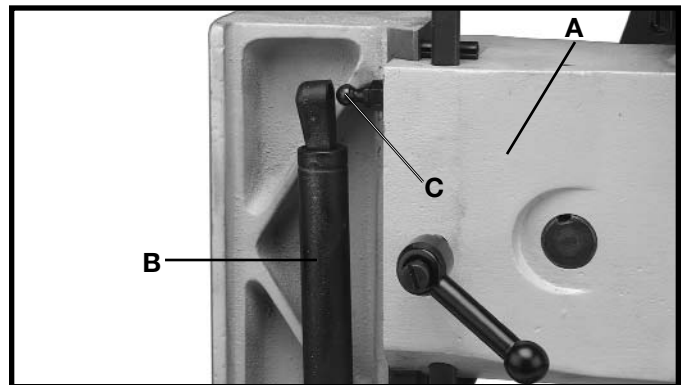
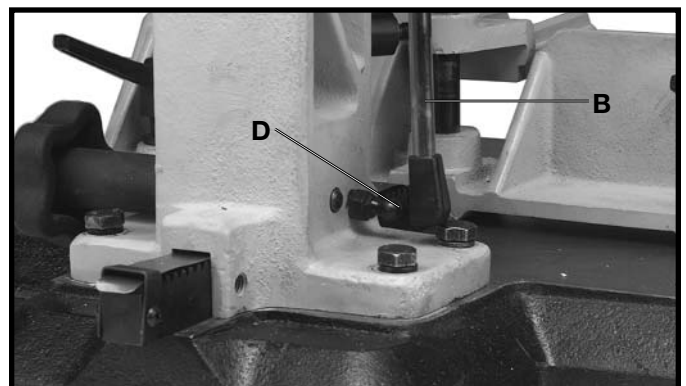

Fig. 5
Fig. 6
Make sure head (A) Fig. 5, is held in the up position and assemble the hydraulic cylinder (B) to the two fittings, one located on the back of the head (C) Fig. 5, and the other on the column (D) Fig. 6. Push each end of the hydraulic cylinder onto each fitting to hold the cylinder in place.